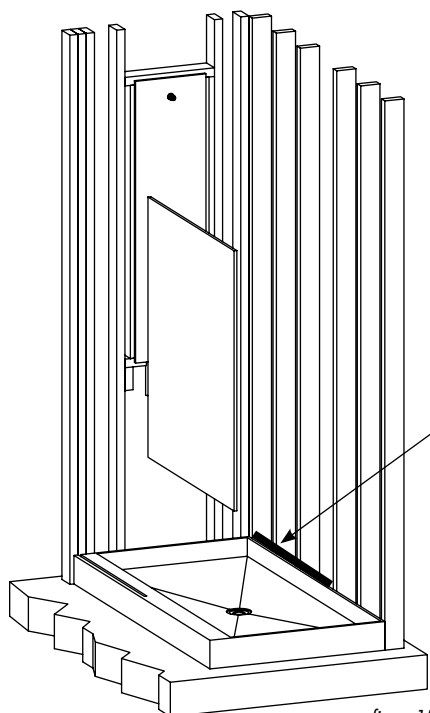

figure 15
1. Place the cement board on the wall and rest it on the top of the shower pan; top back edge. Attach the cement board to the studs with screws (fig. 15).